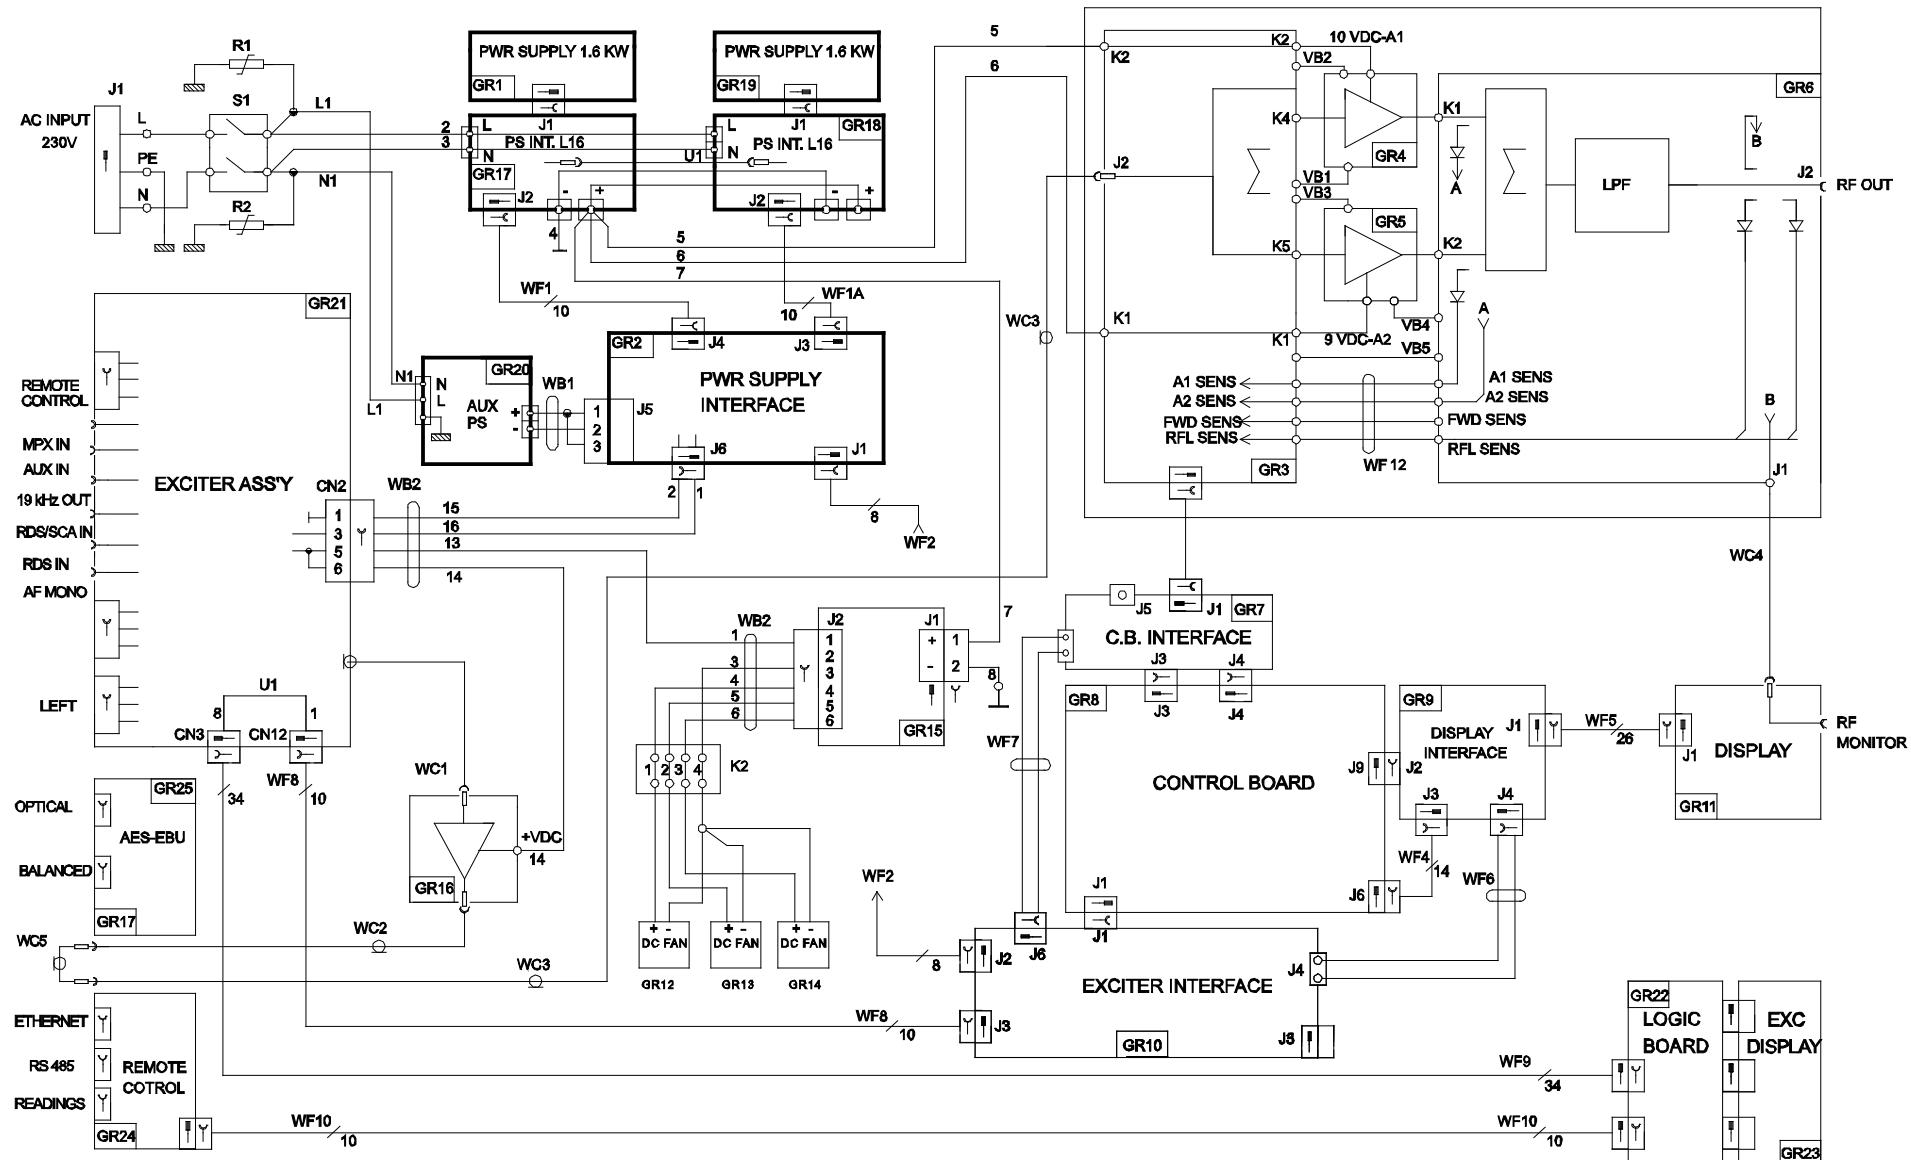

Fig. 1 AC/DC Power Supply Unit - block diagram
- **Functional Description (see Fig. 1)**